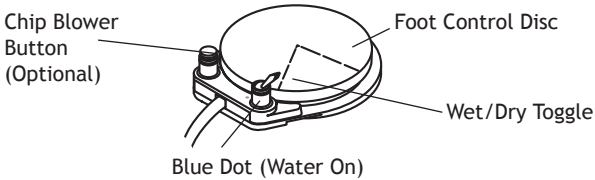

Figure 3. Foot Control
The foot control is equipped with a wet/dry toggle and can be equipped with an optional chip blower button (see Figure 3).
3. Move the wet/dry toggle on the foot control (see Figure 3 on page 2) to the off position, away from the blue dot).
3. Move the wet/dry toggle on the foot control (see Figure 3 on page 2) to the off position, *away from the blue dot*.
3. Move the wet/dry toggle on the foot control (see Figure 3 on page 2) to the on position, *toward the blue dot*.